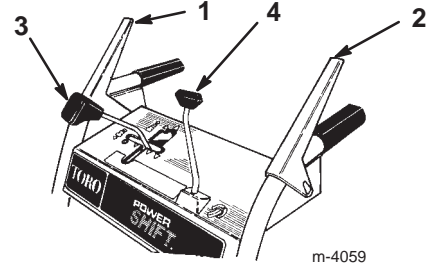

Figure 13
- **Auger/Impeller Drive Control Lever** (Fig. 13)—To engage both the auger and impeller, press the lever against the right handgrip. To disengage, release the lever.
- **Traction Control Lever** (Fig. 13)—To engage the traction (wheel drive), press the lever against the left handgrip. To stop the traction, release the lever.
- **Speed Shift Control** (Fig. 13)—This control has a neutral position, four forward speeds, and two reverse speeds. It also controls the power shifting of the wheels. To select a speed, move the shift control to the desired position.
- **Discharge Chute Control** (Fig. 13)—Rotate the discharge chute control clockwise to move the discharge chute to the right; counterclockwise to move the chute to the left.
- Release the auger/impeller drive control lever and the traction control lever (Fig. 13).
1. Release the traction control lever (Fig. 13).